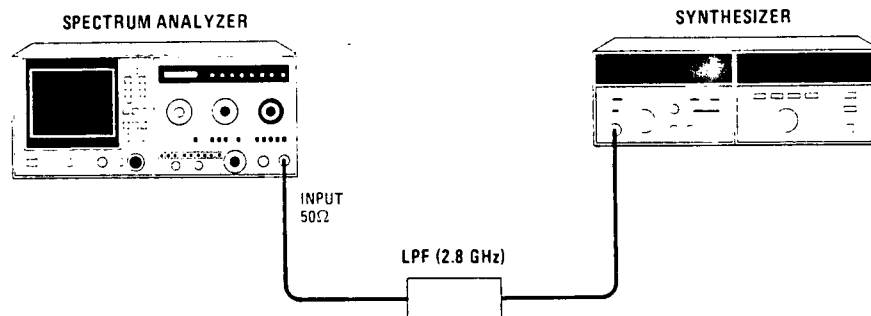

Figure 4-25. Harmonic Distortion Test Setup (1.7 to 18 GHz)
NOTE: Equipment listed is for two test setups, Figures 4-25 and 4-26
4. Connect low pass filter in between synthesizer and spectrum analyzer as in Figure 4-25. Set synthesizer frequency to 2000.000 MHz.